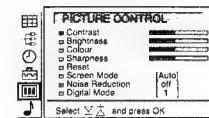

Fig. 28
- Press MENU and select on the screen the symbol for Picture Control or Sound Control, then press OK. The PICTURE CONTROL or SOUND CONTROL menu appears. (See Fig. 28 or Fig. 29)